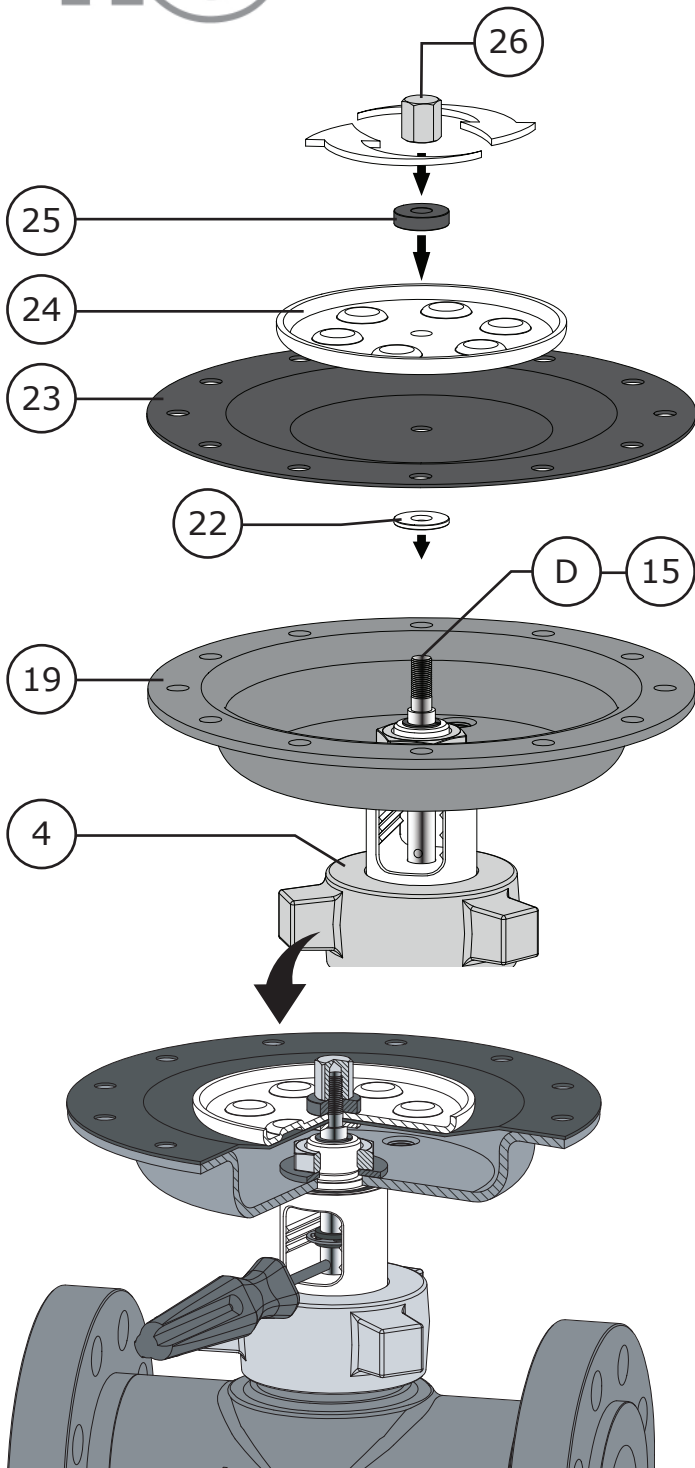

Figure 41 Lower Diaphragm Assembly (Fail Closed)
FOR FAIL CLOSED ACTUATORS (Refer to Figures 41 & 42):
- 8 Install the diaphragm plate (Key 24) as shown in Figure 41.